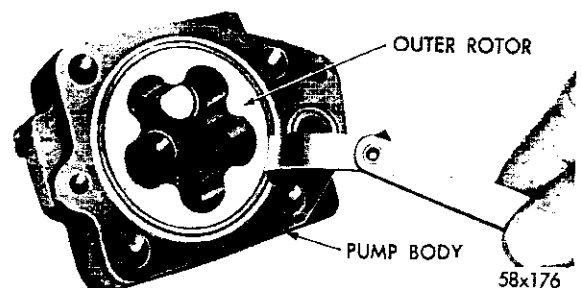

Fig. 7—Measuring the Outer Rotor Clearance
(6) If a feeler gauge of more than .004 inch can be inserted between the rotor and straightedge replace the rotor.
(7) Remove the inner rotor and shaft leaving the outer rotor in the pump cavity.
(8) Press the outer rotor body to one side with the fingers and measure the clearance between the outer rotor and the pump body (Fig. 7).
(9) If the measurement is more than .012 inch,